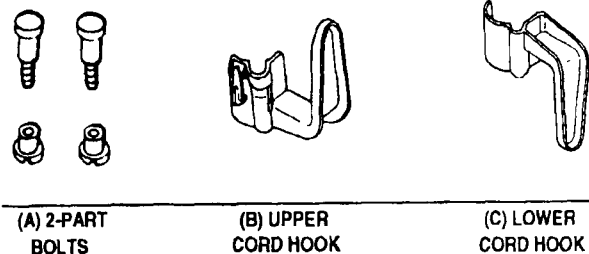

Figure 3
**ASSEMBLY PACKET:** The packet contains two 2-part bolts and two cord hooks (Figure 3). An extra drive belt is also included.